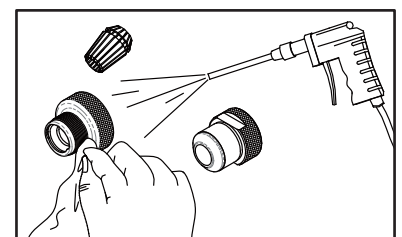
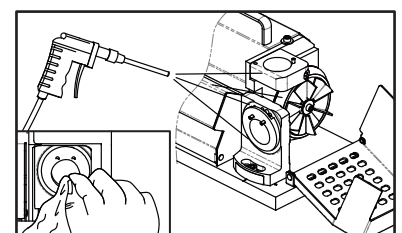

Fig. 12-4
Fig. 12-5
① Unplug the power cord and make sure the power is off.
② Disassemble the chuck set after use.
③ Use the air press gun to clean the scraps and dust out of all grinding shelves and all the accessories. (Fig. 12-4, Fig. 12-5)
(Fig. 12-4, Fig. 12-5)